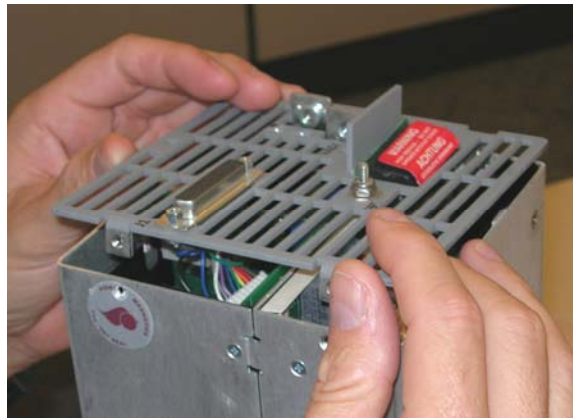

Figure 41 Removing Interface Connector Cable
6. Carefully remove the interface connector cable from the PC board by exerting an upward force. (Refer to Figure 41.)